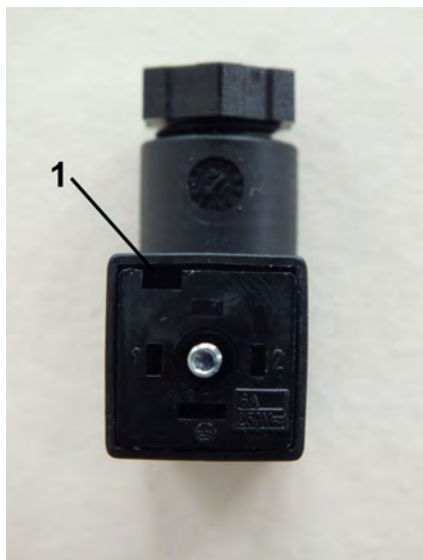

Fig. 23: Loosen inner section
3. ➤ Remove the inner section from the socket by inserting a flat-bladed screwdriver into the slot (Fig. 23/1) and carefully pry out the inner section.
7. ➤ Place the inner section (Fig. 23) back into the socket and push until it locks on